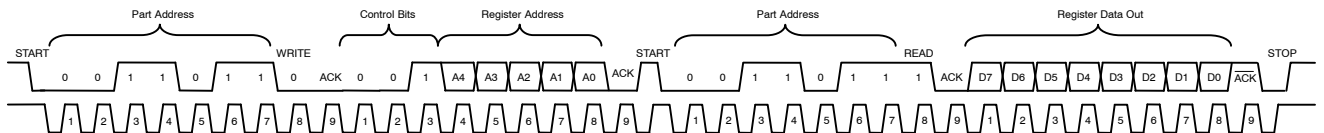

Figure 14. NCP1840 Read Protocol
The Read protocol that is used by the NCP1840 is depicted in Figure 14. As can be seen, the Master initiates the communication by issuing a START condition and then by broadcasting the 7-bit part address of the NCP1840 followed by a Write operation request (0). This is because the control bits need to first be set to 001 before a read operation takes place. The NCP1840 acknowledges the request and the Master then transmits the address byte which consists of 001, for the 3 control bits, followed by the 5-bit address of the register to be read from. Upon successful receipt of the address byte, the NCP1840 acknowledges to the Master which will then issue another START condition followed by the 7-bit part address of the NCP1840 and a Read operation request (1). The NCP1840 acknowledges the request and then transmits the data byte to be read by the Master. The NCP1840 then releases the SDA line and the Master terminates the Read session by not acknowledging the data byte and by issuing a STOP condition.